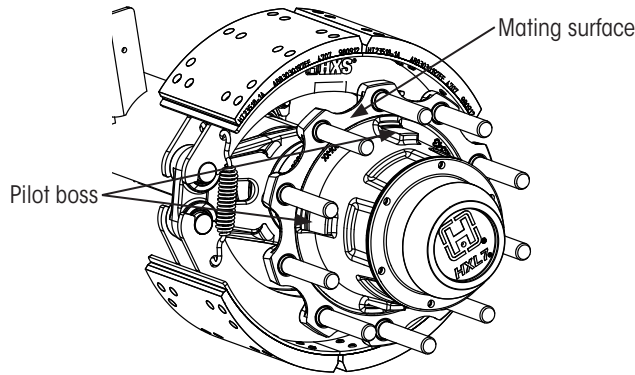

Figure 17: Sample hub piloted wheel-end (Drum brake hub shown)
All Hendrickson hubs are hub piloted (Figure 17). With the hub pilot system, pilot bosses (which are machined into the hub) center the brake drum and wheel around the hub.
2. **Rotate** hub so a pilot boss (Figure 17) is at the top (12 o'clock) position.